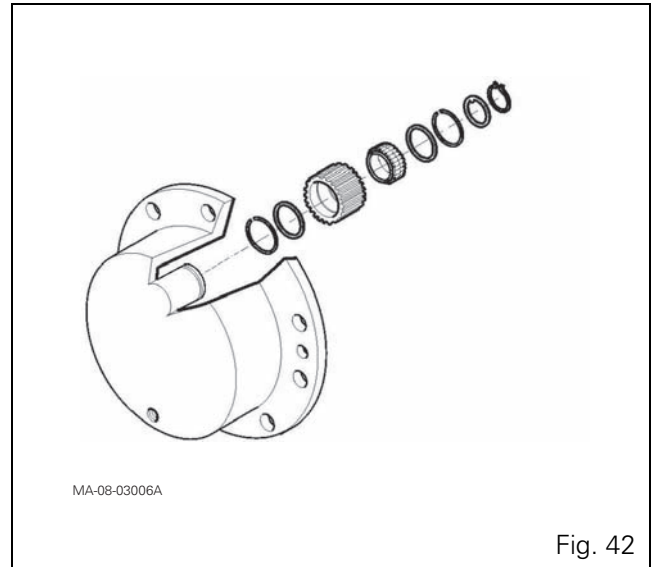

Fig. 42
- 46.** Recover all final drive parts (Fig. 42).